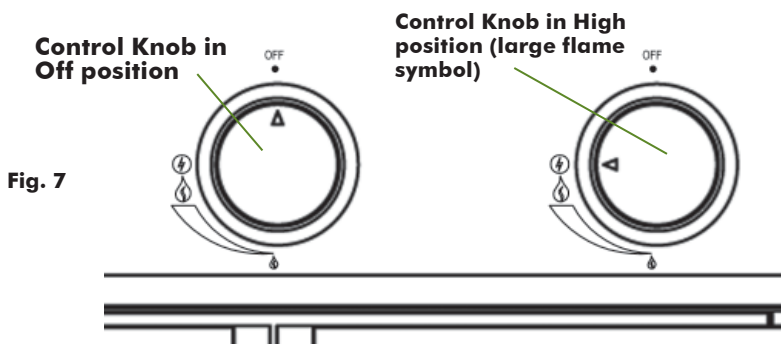

Fig. 7
2. **IMPORTANT:** Make sure Control Knobs are turned "Off." (Fig. 7)
4. Push far left Main Burner Control Knob in on Control Panel and turn counterclockwise to the High position. (Figs. 7 and 9)
2. **IMPORTANT:** Make sure Control Knobs are turned "Off." (Fig. 7, P.19)
2. **IMPORTANT:** Make sure the Side Burner Control Knob is turned "Off" first. (Fig. 7, P.19)
4. Push Side Burner Control Knob in and turn counterclockwise to the High position. (Fig. 7, P.19)